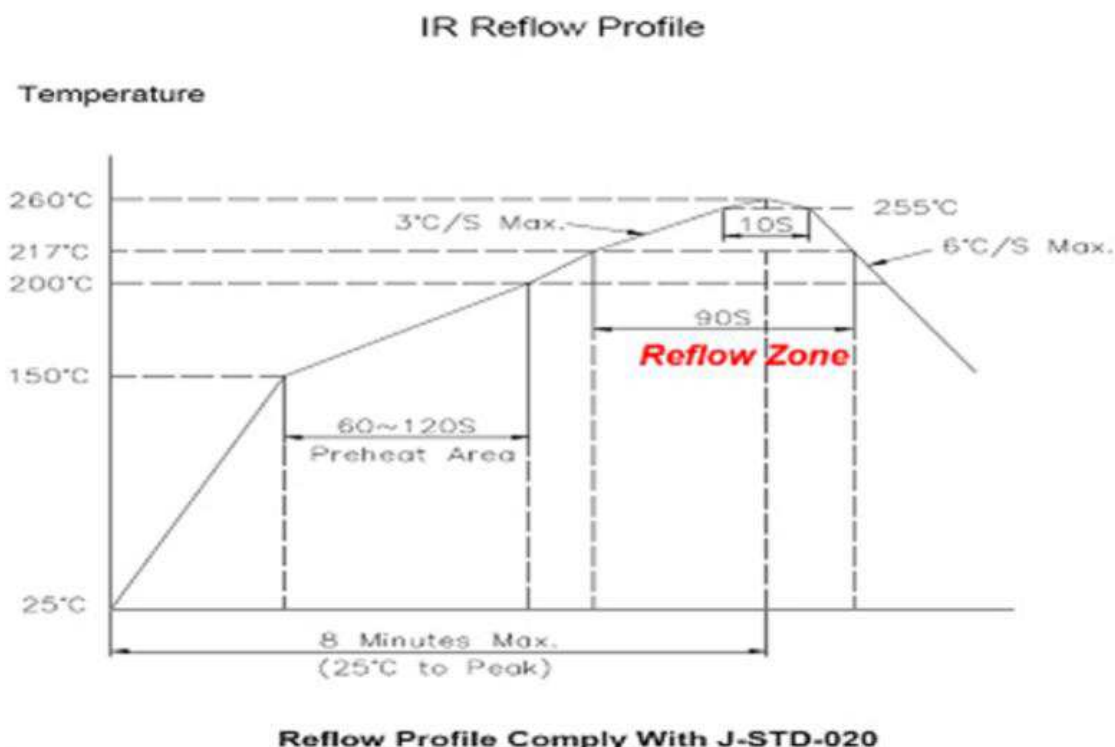

Figure 3
The connector will be soldered using infrared reflow (IR) or equivalent soldering technique. Reflow temperature and time may vary depending on the size of the pc board and placement of other components. This connector can be subjected to the reflow temperature and approximate time specified in Figure 3.